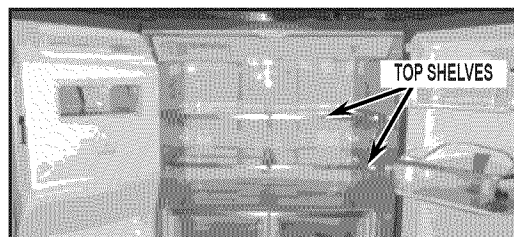

FIGURE 1
2. Open both refrigerator compartment (RC) doors.
3. Remove all items from top shelves and remove shelves. See *Figure 1*.